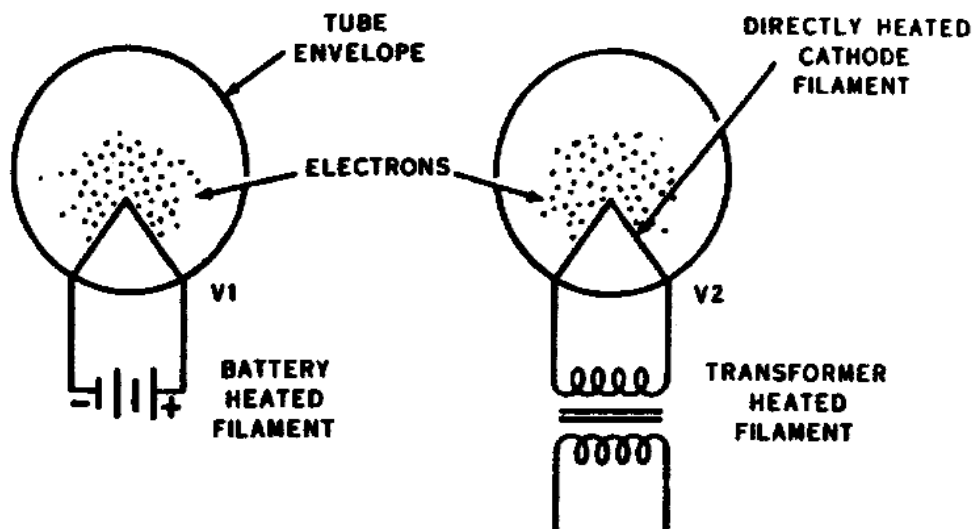

Figure 86. Thermionic emission.
3. Thermionic Emission. To get an idea of what occurs during thermionic emission you should visualize the Christmas sparkler. When you light the sparkler it burns and sparks in all directions. The filament in a vacuum tube reacts the same way when heated to a high temperature. Millions of electrons leave the filament in all directions and fly off into the surrounding space. The higher the temperature, within limits, the greater the number of electrons emitted. The filament in a directly heated vacuum tube is commonly referred to as a cathode. Refer to figure 86 for the symbol of a filament in a vacuum tube with heating sources.